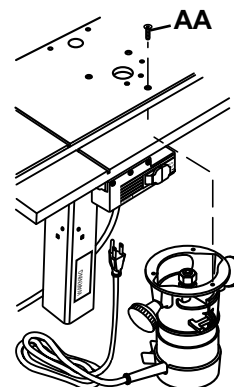

Figure 11
5. Insert three machine screws (**AA**) through holes in tabletop and into router mounting holes. Tighten securely. See Figure 11.